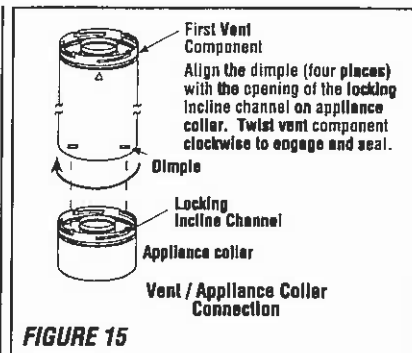

FIGURE 15
B. Attach vent components to appliance - Secure Vent SV4.5 direct vent system components are unitized concentric pipe components featuring positive twist lock connections (see **Figure 15**). All of the appliances covered in this document are fitted with collars having locking inclined channels. The dimpled end of the vent components fit over the appliance collar to create the positive twist lock connection.
To attach a vent component to the appliance collar, align the dimpled end over the collar, adjusting the radial alignment until the four locking dimples are aligned with the inlet of the four inclined channels on the collar (refer to **Figure 15**). Push the vent component against the collar until it fully engages, then twist the component clockwise, running the dimples down and along the incline channels until they seat at the end of the channels. The unitized design of the Secure Vent components will engage and seal both the inner and outer pipe elements with the same procedure. Sealant and securing screws are not required.
Secure Vent SV4.5 direct vent system components are unitized concentric pipe components featuring positive twist lock connection, (refer to **Figure 15** on page 10). All of the appliances covered in this document are fitted with collars having locking inclined channels. The dimpled end of the vent components fit over the appliance collar to create the positive twist lock connection.